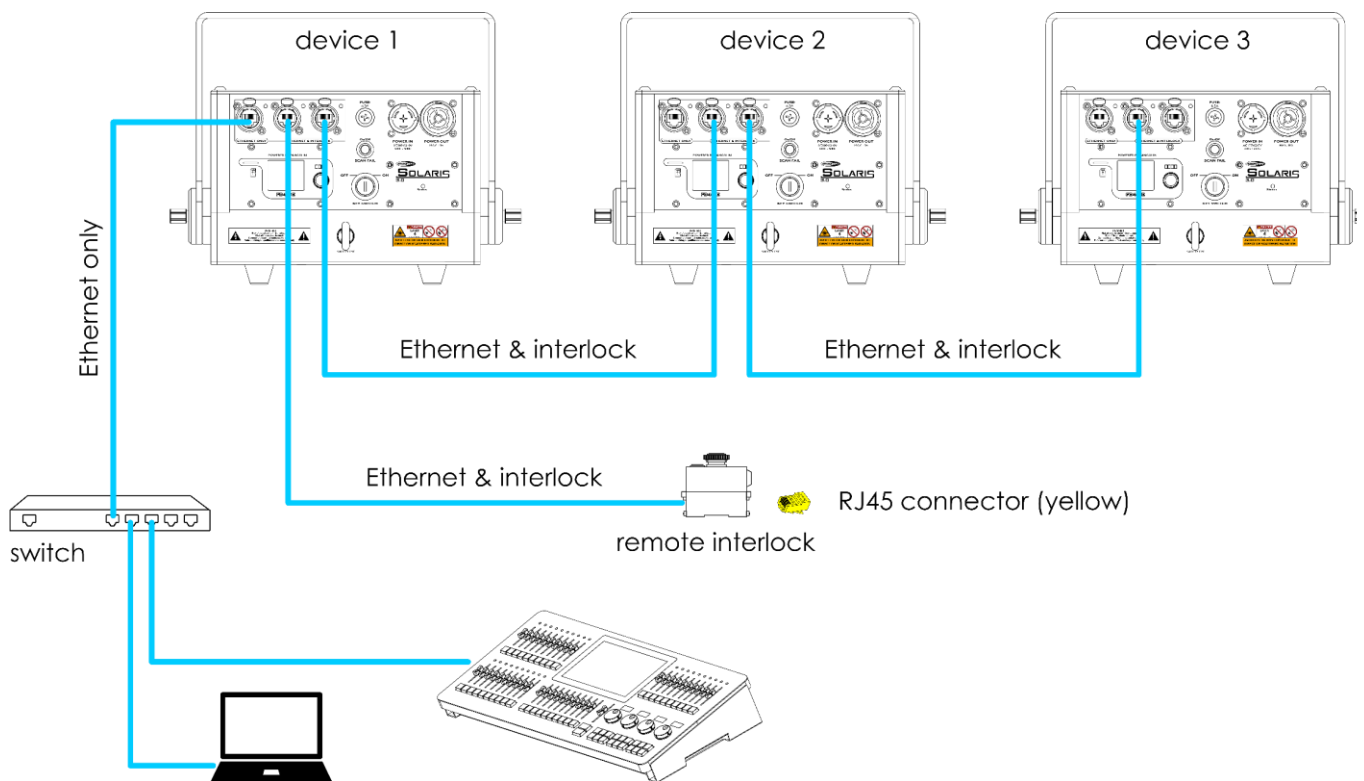

Fig. 15
Fig. 15 shows a typical setup with multiple device. Follow the steps below to connect the device to a computer/lighting controller, to the remote interlock, and to other devices:
- 01) Connect the RJ45 connector of the computer/lighting controller to the **Ethernet only RJ45 connector (09)** of the first device with a CAT-5/CAT-5E/CAT-6 cable. For larger setups you can use a switch between the first device in the setup and the computer/lighting controller.
- 02) Connect the **RJ45 connector (26)** of the remote interlock, supplied with the device, to one of the **Ethernet & interlock RJ45 connectors (10)/(11)** of the first device in the setup with a CAT-5/CAT-5E/CAT-6 cable.
- 03) Connect the other **Ethernet & interlock RJ45 connector (10)/(11)** of the first device to one of the **Ethernet & interlock RJ45 connectors (10)/(11)** of the second device in the setup with a CAT-5/CAT-5E/CAT-6 cable.
- 04) Repeat step 3 to connect all devices as shown in Fig. 15.
- 05) Insert the RJ45 connector (yellow), supplied with the device, into the **RJ45 connector (25)** of the remote interlock.